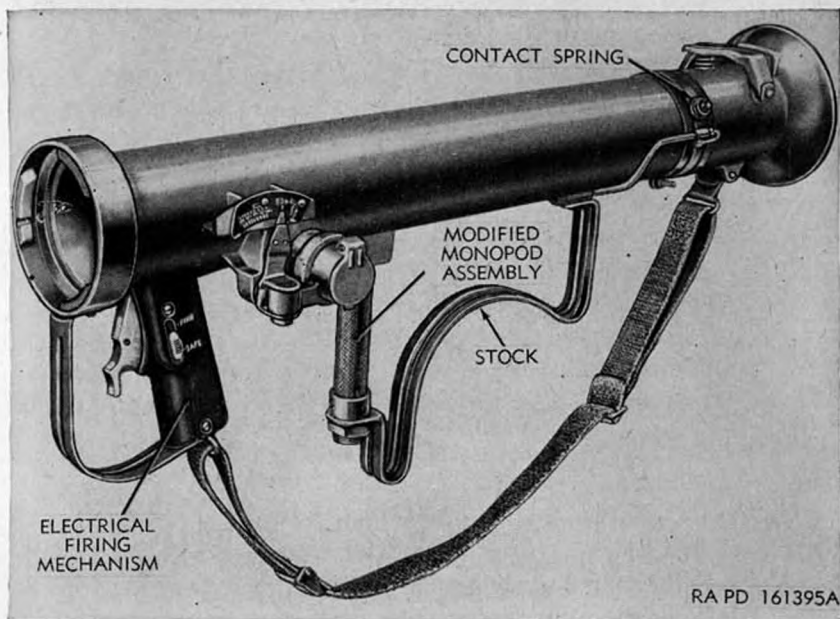
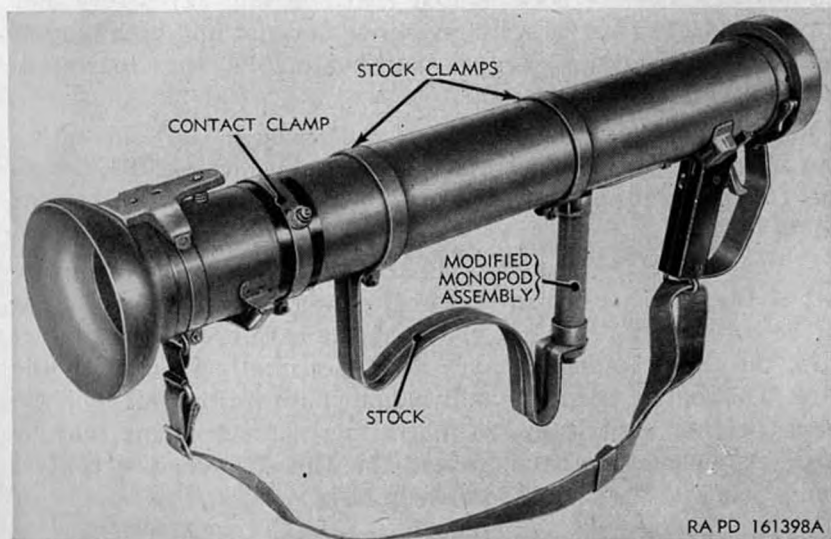

Figure 26. Rear barrel of launcher M20B1 (early manufacture)—
Figure 29. Rear barrel M20 (early manufacture)—right-side view.
a. The electrical firing mechanism (fig. 26) is located on the underside and at the forward end of the rear barrel. It is secured to the barrel by means of the grip support. Basically, it consists of the two grips, the trigger assembly, and the electrical firing mechanism. The electrical firing mechanism is composed of two magnets housing a coil of wire, which in turn houses a steel armature. When the trigger is squeezed, the armature rocks in the coil and generates sufficient current to ignite the rocket.
On launcher M20 of early manufacture, the monopod stock assembly consists of a shoulder stock and a monopod, mounted on stock clamps, around the rear barrel between the sight mounting bracket and contact clamp (fig. 29). On the launcher M20B1, the monopod stock assembly is similarly located, but it is mounted on supports cast integral with the rear barrel (fig. 26). The monopod is used in conjunction with the bipod, on the front barrel, to form a three-legged stand for the weapon (figs. 3 and 4). The launcher stands on the bipod and monopod when firing from the prone position. The height of the monopod can be adjusted by rotating the sleeve body of the monopod. Manipulation of this adjustment provides stable control of the elevation of the launcher. On some launchers M20 and M20B1 of early manufacture, the foot of the
b. The sight mounting bracket (fig. 6) is on the left side of the rear barrel of the launcher M20. On the launcher M20B1, a support for the sight and elevation plate is cast integral with the rear barrel (fig. 26).
e. The electrical firing mechanism (fig. 26) (pars. 45-48) is housed between the grips. On the launcher M20 of early manufacture, the stock with the monopod (pars. 49-51) is clamped rigidly to the rear barrel, between the sight mounting bracket and the contact clamp. On the launcher M20B1, the stock and monopod (fig. 26) are similarly located but are mounted on supports which are cast integral with the rear barrel. The contactor latch housing serves to engage the groove in the radial fin assembly of the rocket and hold the rocket in proper firing position in the launcher. This contact also completes the firing circuit of the rocket (*d* above). The breech guard facilitates loading.